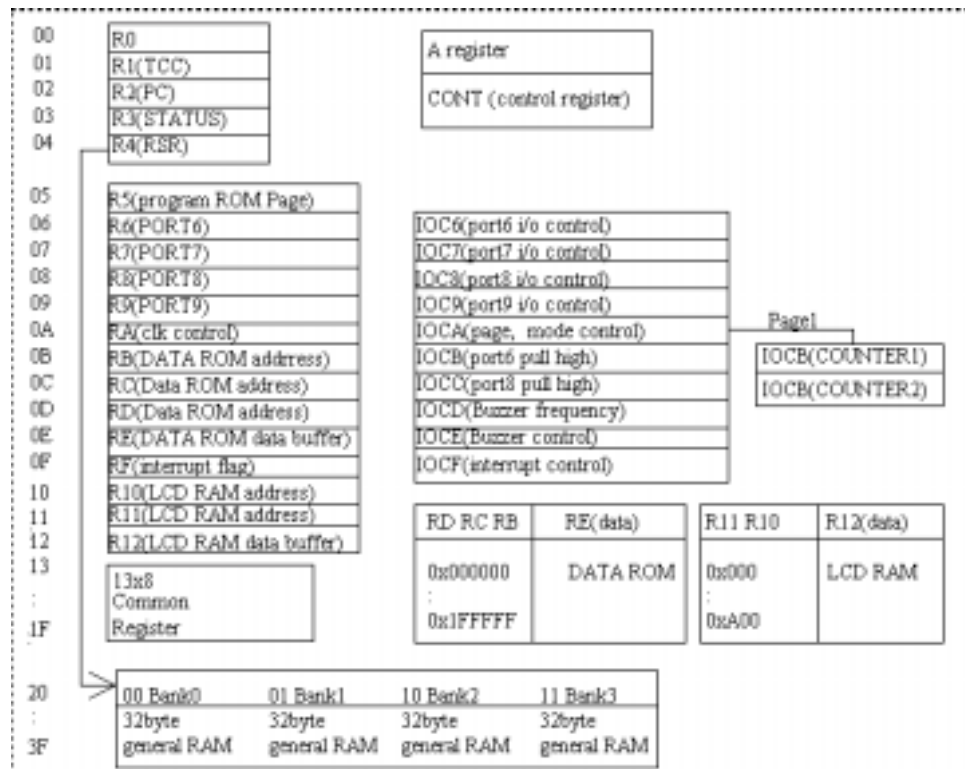

Fig.4 Data memory configuration
- * See the configuration of the data memory in Fig. 4